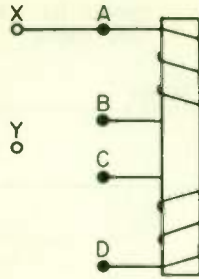

Fig. 32
2. Connect the two windings of Fig. 32 so that there will be maximum inductance between terminals X and Y.